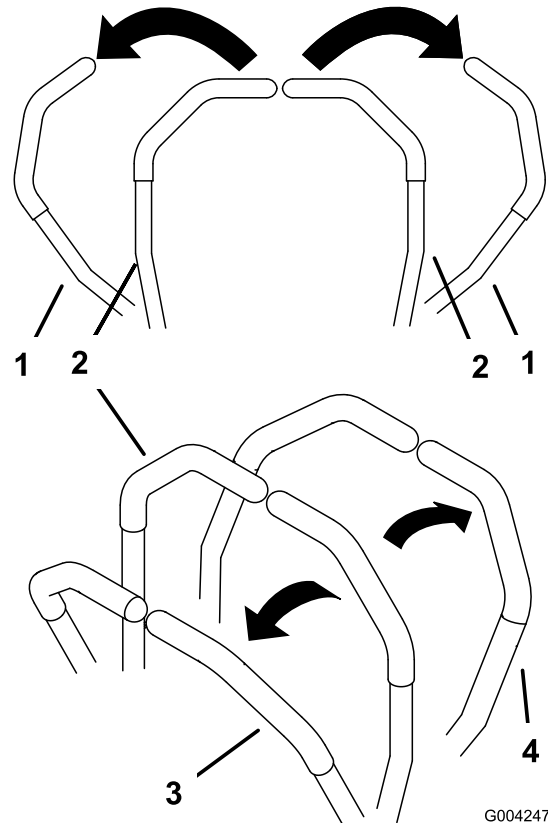

Figure 14
1. Move the motion control levers (Figure 14) out to the neutral lock position.
3. To go forward, slowly push the motion control levers forward (Figure 14).
To go straight, apply equal pressure to both motion control levers (Figure 14).
To turn, move the motion control lever toward neutral in the direction you want to turn (Figure 14).
2. To go backward, slowly pull the motion control levers rearward (Figure 14).
To turn, release pressure on the motion control lever toward the direction you want to turn (Figure 14).